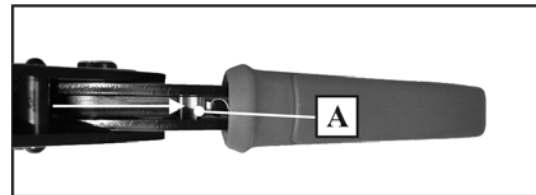

Fig. 2.
Using small screwdriver or similar tool, push the ratchet relief (A), located inside moving handle, (Fig. 2.) in direction as shown to unblock the tool, and remove obstruction before continuing with the work. With this tool **only** microplugs of **appropriate type** have to be used. Crimping microplugs of unsuitable type may result with unsatisfactory characteristics of crimped connections and eventually with damaging of the tools and is to be strictly avoided.